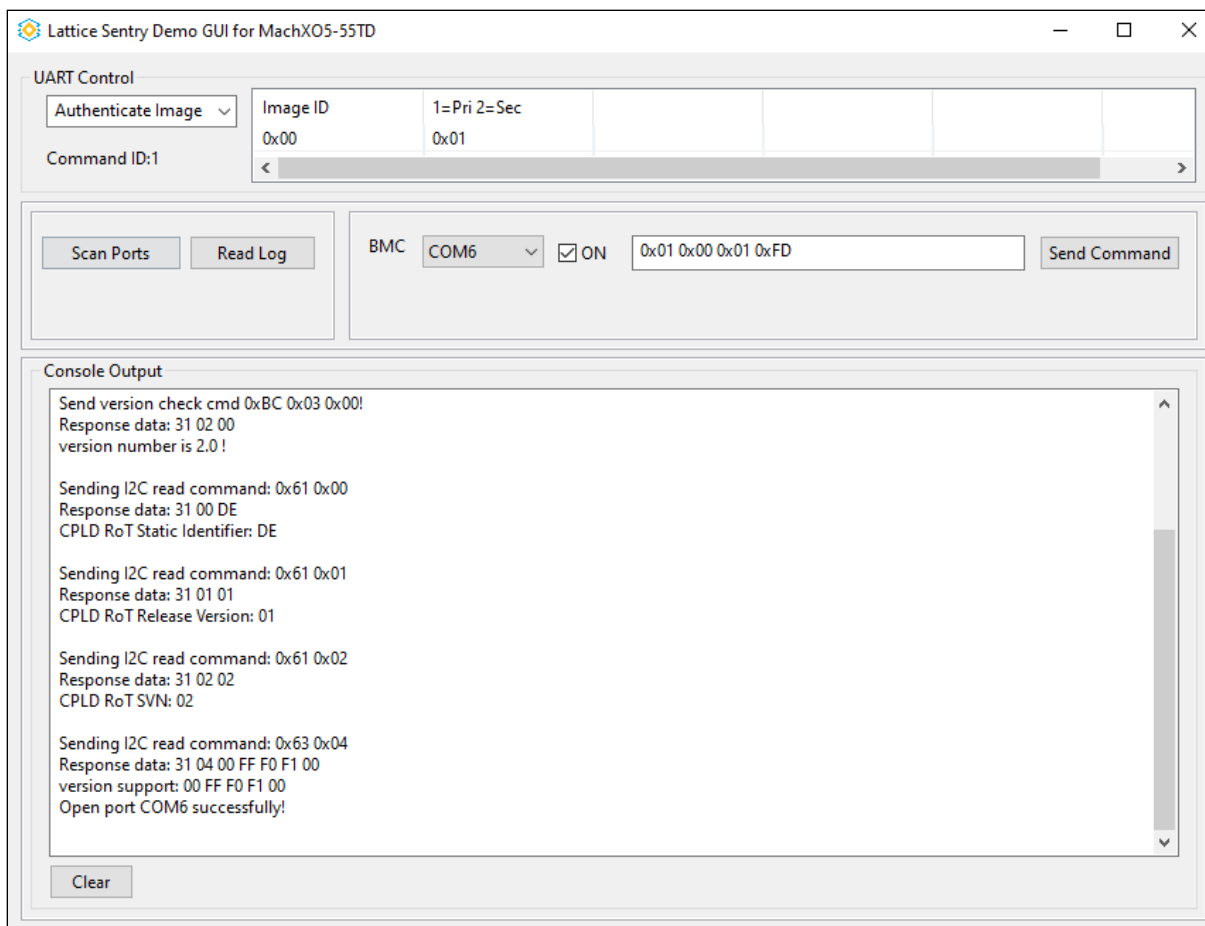

Figure 9.7. Lattice Sentry Demo GUI BMC Connection Success
- Make sure a success message is displayed on the Demo GUI console (Figure 9.7).